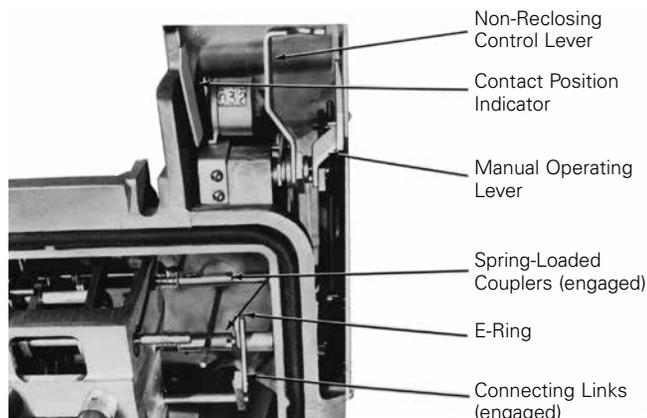

Figure 2. Disconnecting control lever prior to head assembly removal.
- B. Disengage the control lever and the contact position indicator by pushing the spring-loaded couplers (Figure 2) inward.
C. Disconnect the non-reclosing control lever by removing the E-ring indicated in Figure 2 and separating the two connecting links.